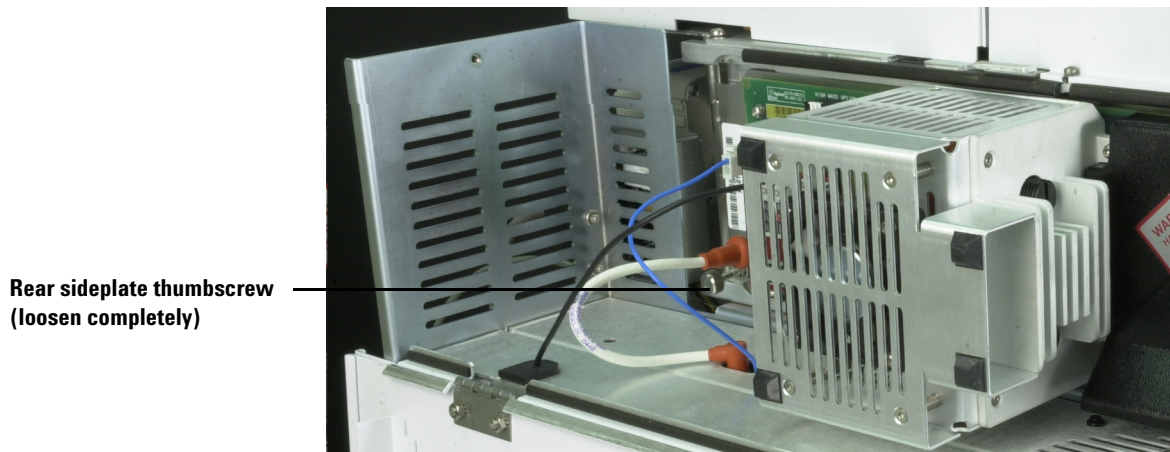

Figure 9 Loosen sideplate thumbscrews
- 6 Loosen the sideplate thumbscrews completely (shown in Figure 9) and open the analyzer.